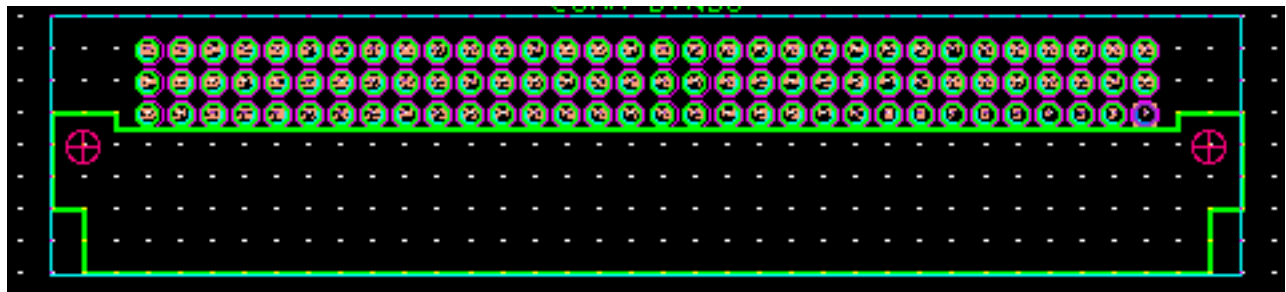

Figure 3-25. Connector with Placement Outline
14. Complete the connector by adding the placement outline, as shown in Figure 3-25.